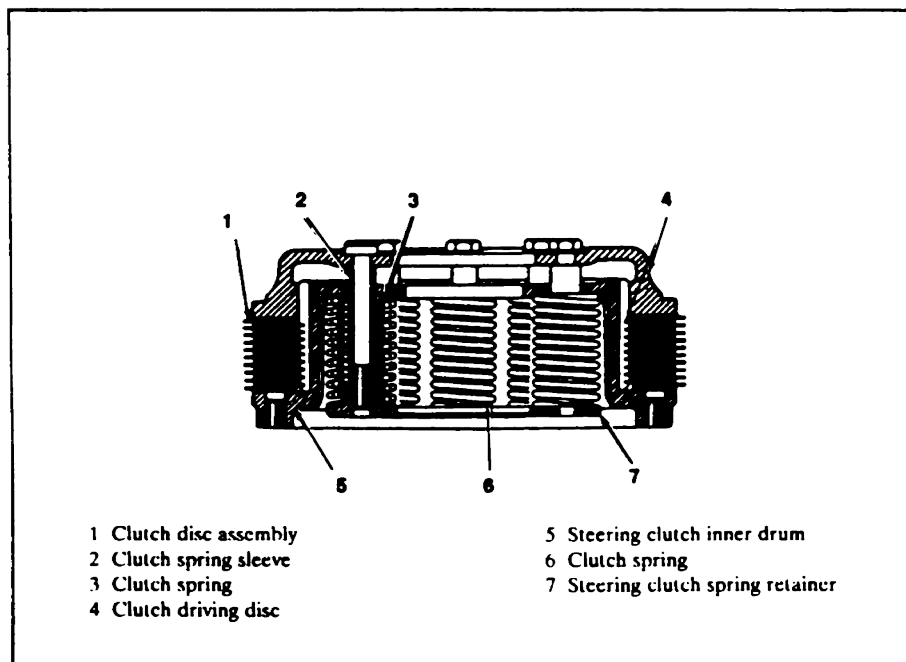

FIGURE 23. CLUTCH ASSEMBLY CROSS SECTION
Step 4. Remove the clutch disc assembly and the clutch driving discs from the inner drum (Figure 23).